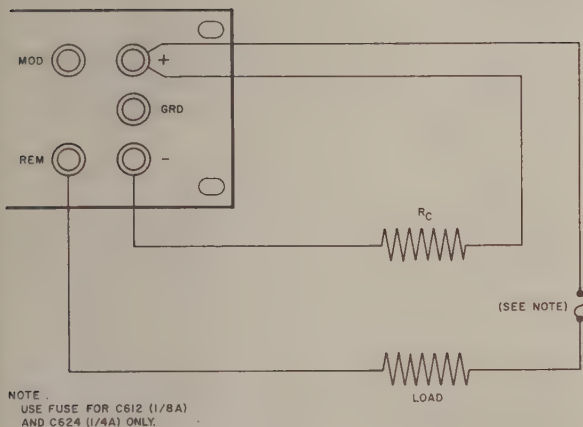

Figure 2-4. Constant-Voltage Conversion, External Connections
This constant-current power supply can be converted for constant-voltage output by the external connections shown in figure 2-4. The constant-voltage configuration provides an output as low as 5 volts with regulation of 0.05 percent. Proceed as follows:
- For C612 or C624 only, connect one end of appropriate fuse (see figure 2-4) to (+) binding post. Then (for all models) connect load between free end of fuse and **REM** binding post.